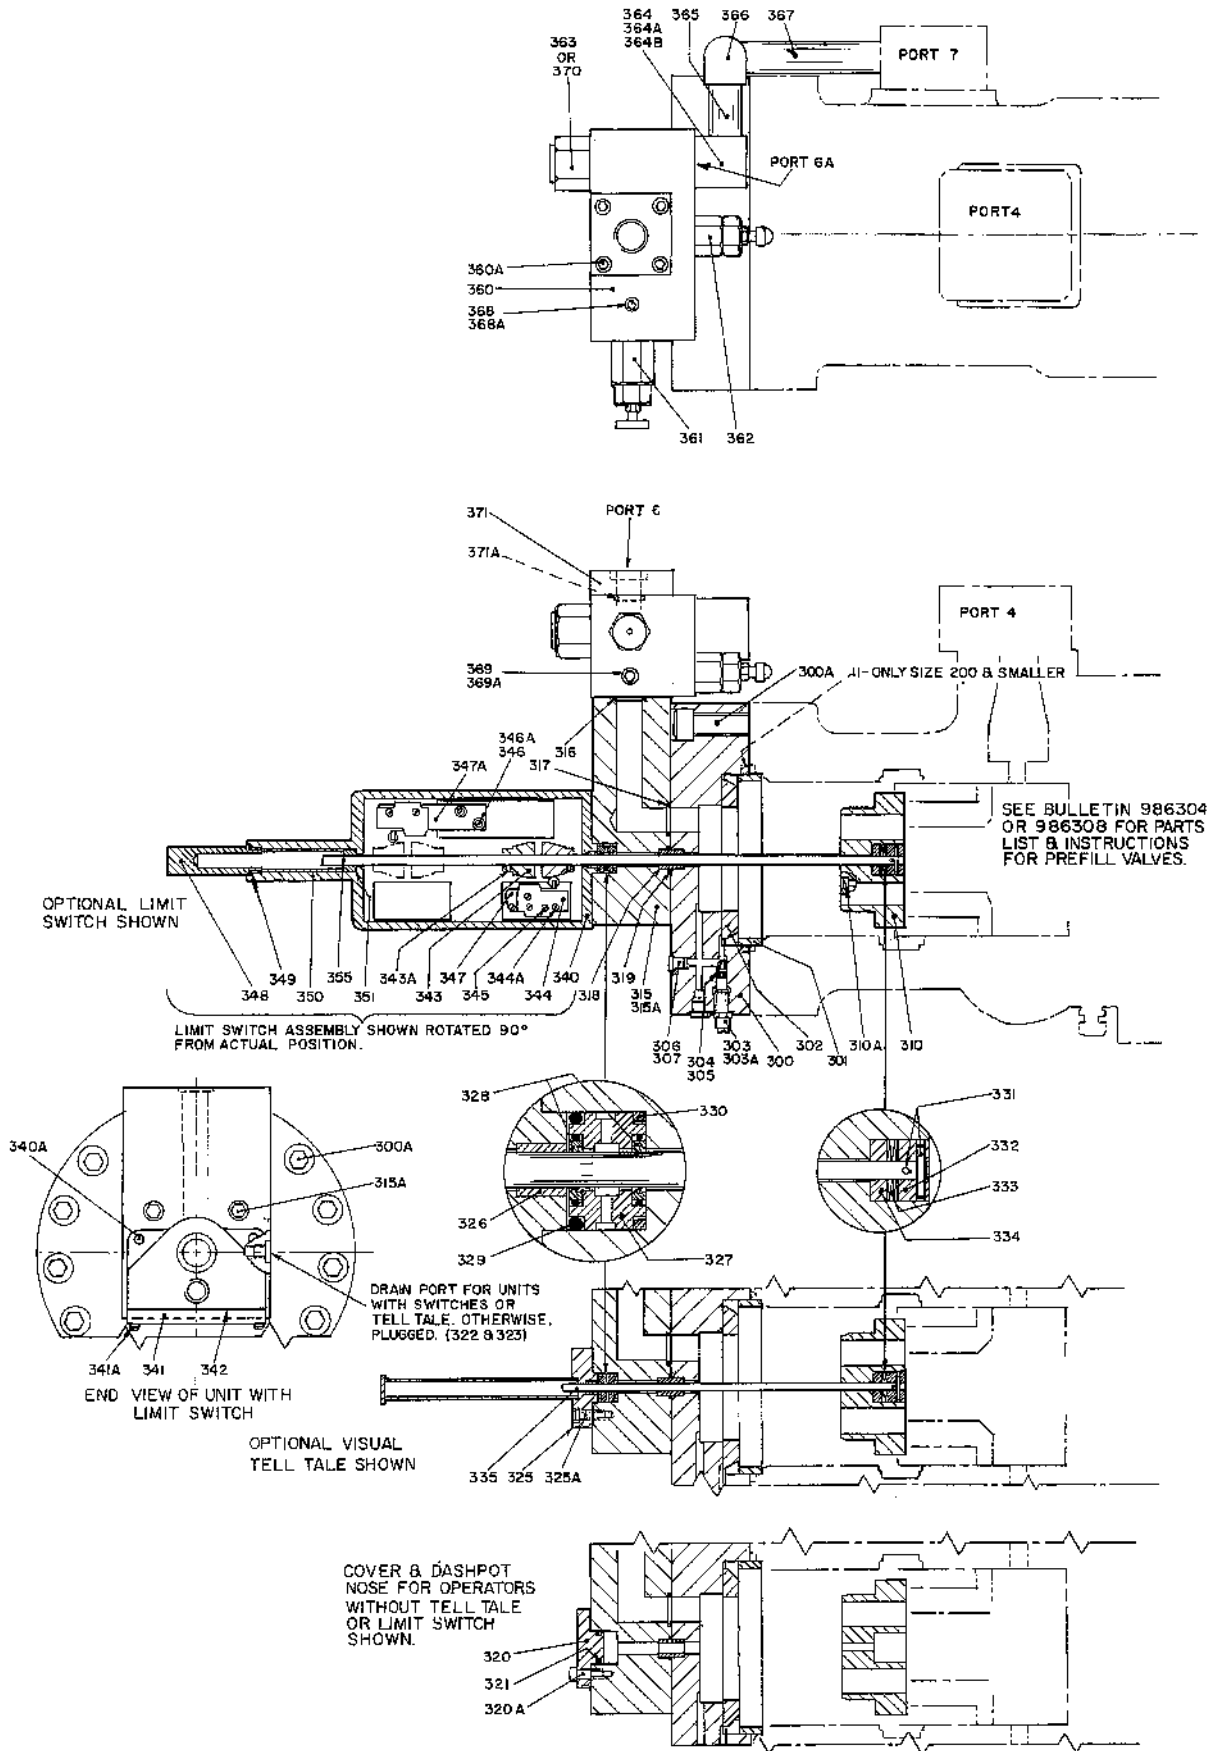

Figure 2. Parts Drawing. Modular Resistance Type Operator. DS-986331. (516666)
Refer to Figure 2. The principle parts of this operator are a dashpot nose (310) on the control piston, a floating dashpot mechanism (302) in the rear head (300), an adapter block (315) and the resistance operator module block (360) containing the adjustable resistance valve (361), the adjustable needle check valve (362), and an optional check valve (363). Optional limit switch assembly (340) or visual tell tale assembly (325) may also be mounted on the adapter block (315).
Refer to Figure 2. It will be advantageous to tag similar parts (particularly screws, plugs and o'rings) during disassembly to be certain they don't become confused with similar parts and to ensure they will be returned to original location.
**Avoid allowing cylinder prefill plunger (18) movement beyond normal closed position or piston rings will expand in Port 3 relief and lock plunger in body. Refer to Figure 2. Depending upon what part or parts are to be inspected, it may not be necessary to completely take apart all assemblies or disconnect piping.**